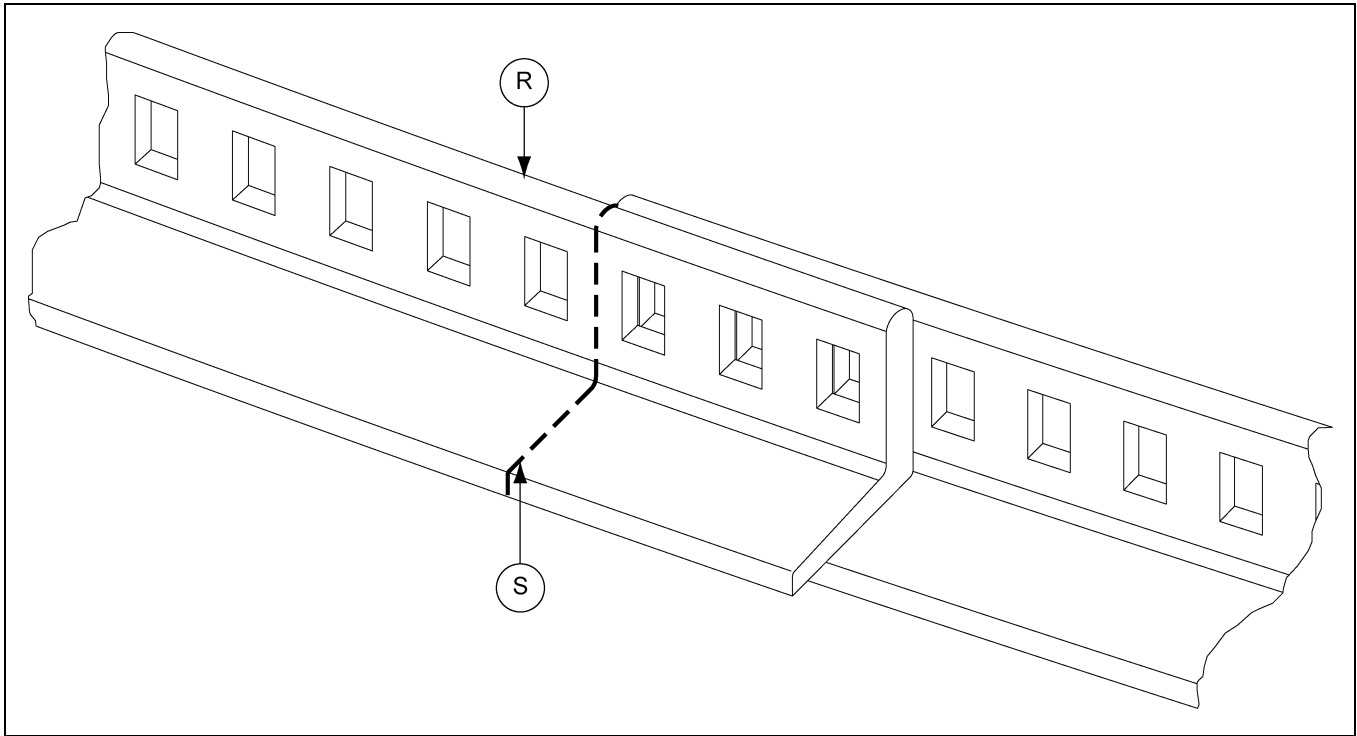

Figure 5D
12. Install the track pitch tool into the squares of the overlapping track sections. Place a reference mark (S) where tracks overlap and cut the last section of track (R). (See Figure 5D.)